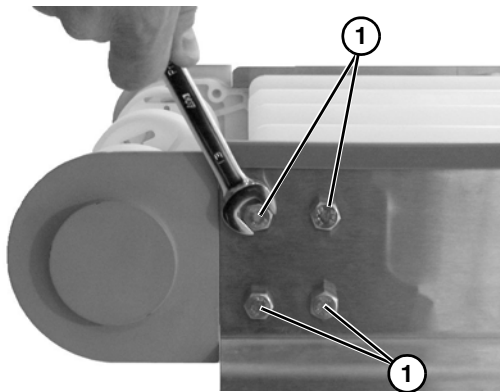

Figure 37
2. Remove four head plate bolts (Figure 37, item 1). Repeat on opposite side.